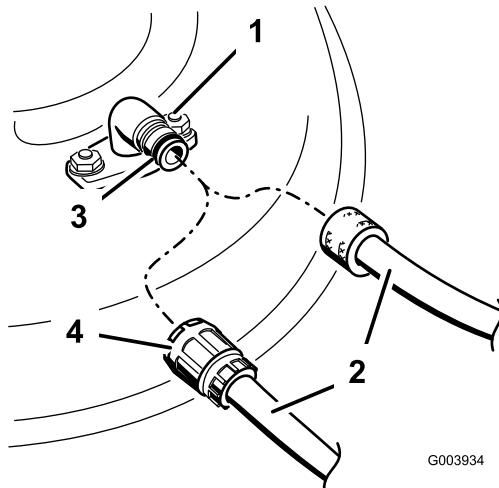

Figure 52
- Attach the hose coupling to the end of the mower washout fitting, and turn the water on high (Figure 52).